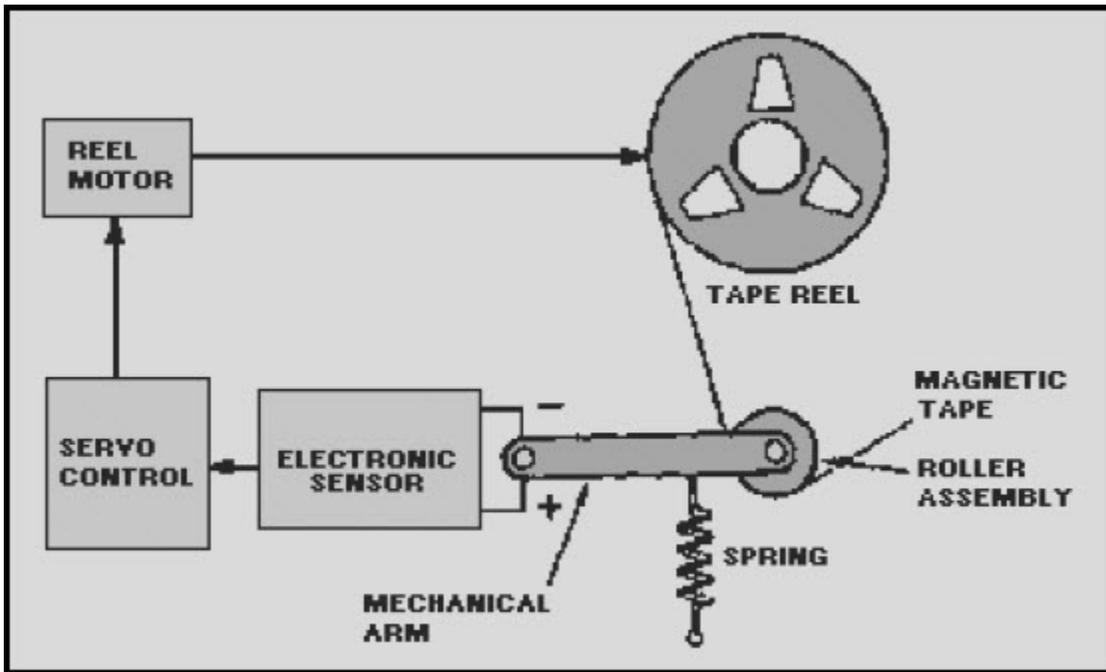

Figure 4-3 Mechanical arm spring-tension tape buffering
1. **Spring-tension** buffering systems use an electro-mechanical device to sense changes in tape tension. These changes are *feedback* that the speed control servo needs to adjust the speed of the tape reels. Figures 4-3 and 4-4 show two of the more common arrangements for spring-tension buffers.